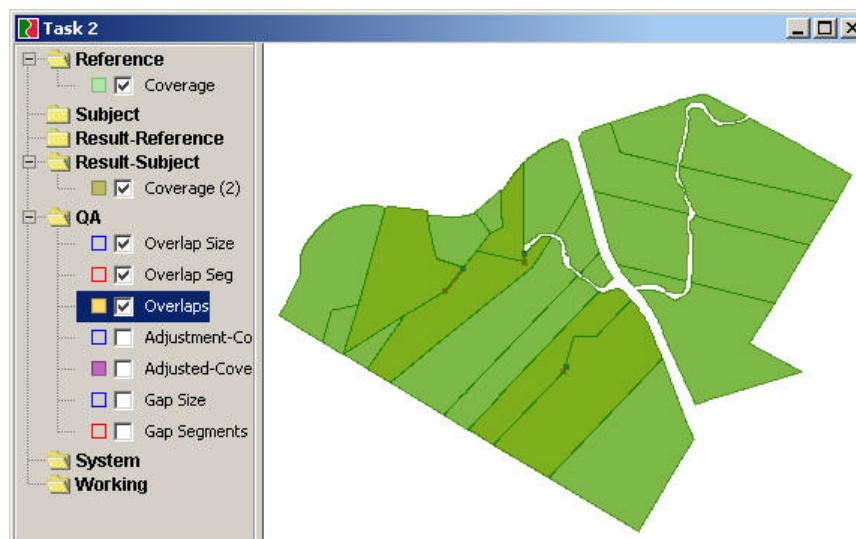

Figure 3-13 - Layers created by the Find Coverage Overlaps function
- When the Find Coverage Overlap function executes it will create three new layers in the QA category (see Figure 3-13 below):